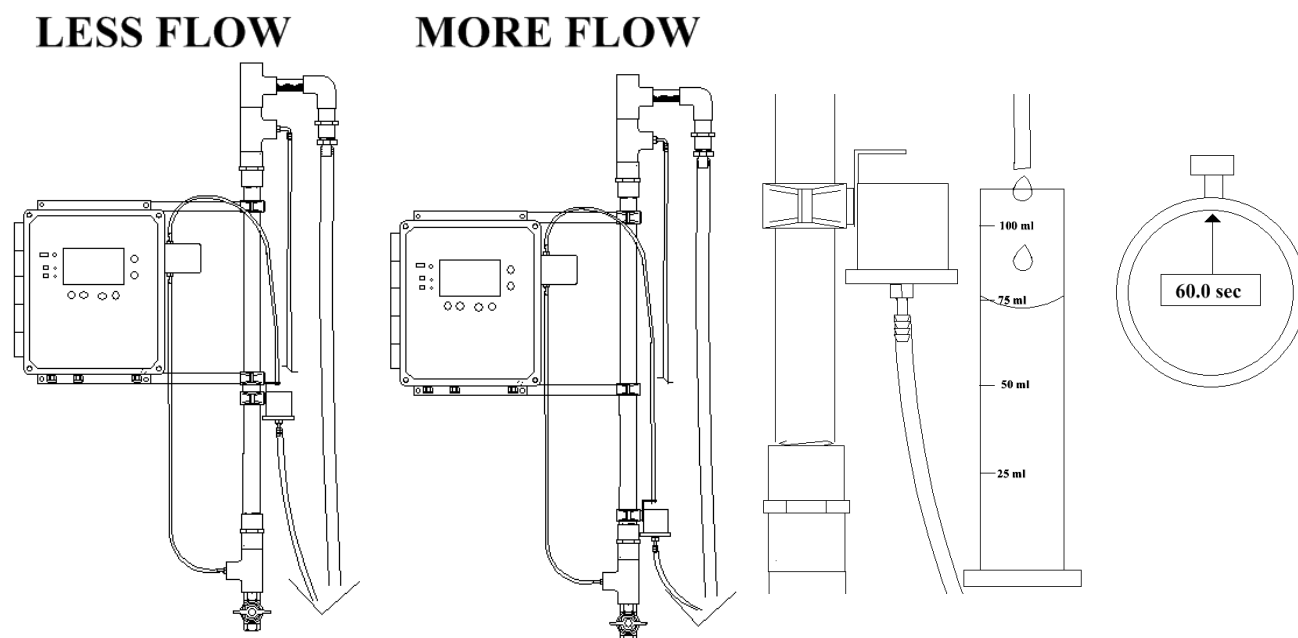

Figure 17 Sensor Flow Rate Adjustment
2. Mount the Weir to the right of the unit (as shown in figure 17) and insure there is a minimum of 4 inches between the Weir and the sensor (the sensor protrudes from the top right side of the enclosure). The cap on the sensor may need to be removed at some point for maintenance and mounting the Weir too close to the sensor will make it impossible to remove the cap without first removing the weir.